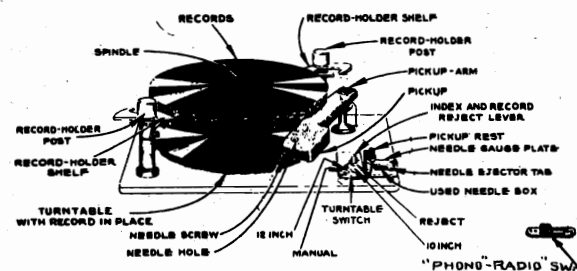

Figure 6
The two record holder posts (See Figure 6) are covered with paper held in place by rubber bands as is also the pickup. Remove these paper coverings.
TURNABLE SWITCH: The Turntable Switch is a toggle type located in the front of the index plate on the motorboard (See Figure 6). It is used to start and stop the motor.
INDEX LEVER: The Index Lever moves in a small arc in the slot in the index plate. (See Figure 6). The plate is labeled for four positions of the lever - "Manual", "12", "10" and "Reject". If a single record is to be played the automatic record-changing feature will not be used and the Index Lever should be set to the "Manual" position.
Lift the Record Holder shelves, Figure 6, with the fingers underneath and revolve to clear the record circle, also push back the lever sticking up adjacent to the rear record holder post. You now have clear access to the turntable. Place the first record upon the turntable with the spindle protruding through the center of the record.
1. Move Index Lever to "Manual" position. See Figure 6.
3. Lift the record holder shelves and swing outwards. See Figure 6.
7. Turn on turntable switch. See Figure 6. The turntable will start revolving. Wait till it has reached its normal speed.
The phonograph will not shut off until the turntable switch (Figure 6) or the Receiver switch is turned off.
1. Move index lever to "Manual" position. Fig. 6.
4. Swing the record holder shelves inward into place down on their posts and extending over the turntable. Fig. 6.
7. Turn on turntable switch. Fig. 6.
Records with the center changing groove will change automatically at the end of each selection until the end of the last record is reached. The last record will repeat itself until the Turntable Switch or Power-Tone control is turned off. To bring down another record at any time during playing of series, push the index lever, (Fig. 6) to "Reject" and let go. Bring back to "12" if you are playing 12-inch records.